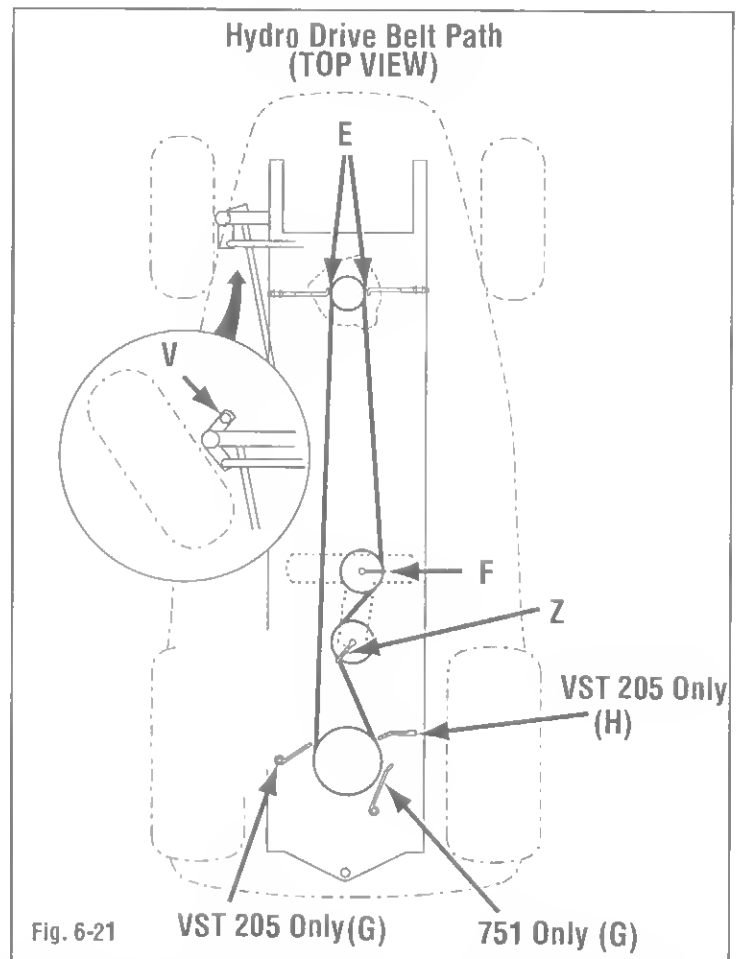

Fig. 6-21
- Route belt around sheaves as shown in Fig. 6-21.
- Adjust belt guides (E) 1/16" to 1/8" away from belt. Secure guides (E).
- Adjust belt guide (F) so it is pointing
straight to the right of the unit as shown in Fig. 6-21. Secure guide (F).